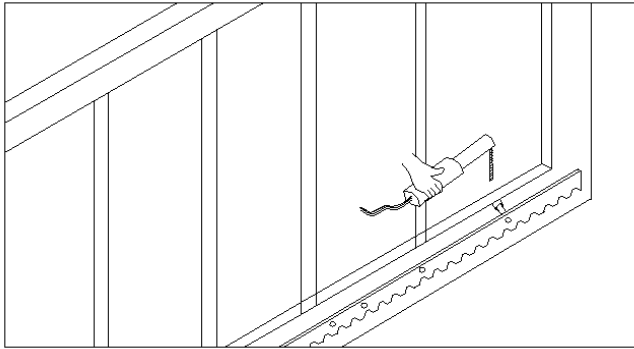

Fig.4
- Install the limit block as shown in Fig.4 and Fig.5. The magnetic of limit switch and blocks are used to control the position of the gate.